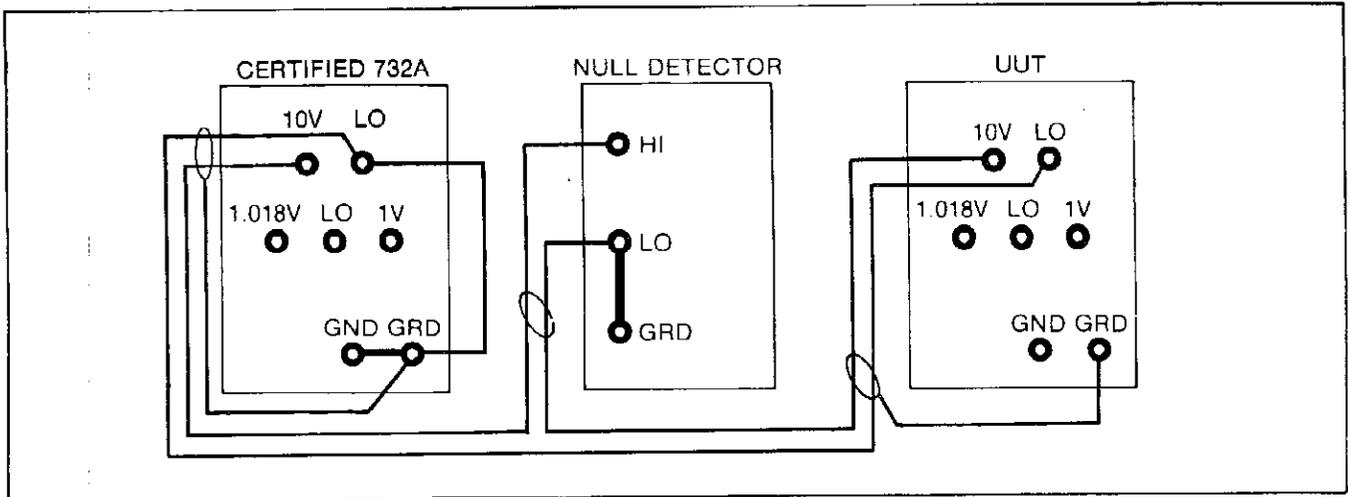

Figure 4-6. 732A 10V Calibration
5. Measure load regulation. Connect the 732A under test as shown in figure 4-6. Use copper hook-up wire under the binding posts, leaving the connector socket free. Measure the null voltage, then insert the leads from a 1000 Ohm load resistor into the connector sockets and determine the shift in the null voltage. The voltage change should be less than $10 \mu\text{V}$ or 1.0 ppm.
3. Connect the UUT and the Certified 732A as shown in Figure 4-6.